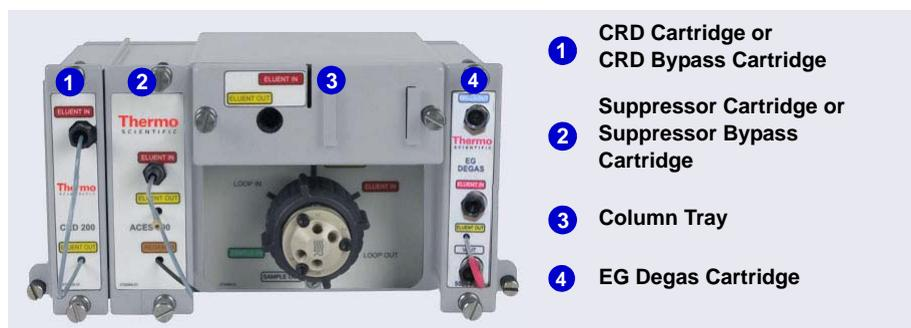

Figure 3-6. Example Dionex IC Cube with Cartridges and Column Tray Installed
The Dionex IC Cube houses three removable component cartridges and one column tray for running capillary IC applications. For reference, Figure 3-6 shows an IC Cube after these items have been installed.
- a. Remove the cap from the regenerant port on the rear of the cartridge. Slide the cartridge into the right-most slot of the Dionex IC Cube (see Figure 3-6). Push the cartridge firmly into the slot and tighten the thumbscrews fingertight only.
- a. Remove the caps from the regenerant ports on the rear of the CRD or CES cartridge. Slide the cartridge into its slot in the Dionex IC Cube (see Figure 3-6). Push the cartridge firmly into the slot and tighten the thumbscrews fingertight.